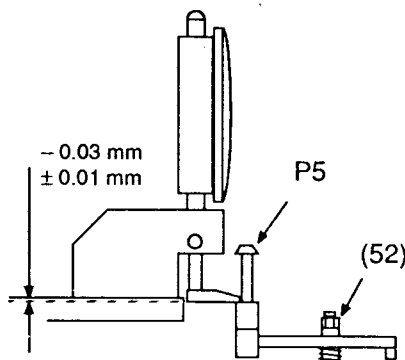

Fig. 29
- Place the Dial Height Gauge as shown in Fig. 29 onto the lower guide collar of the Tape Pull-out Bolt P5 and adjust the nut (52) until the pointer of the Dial Height Gauge indicates $-0.03\text{mm} \pm 0.01\text{mm}$.